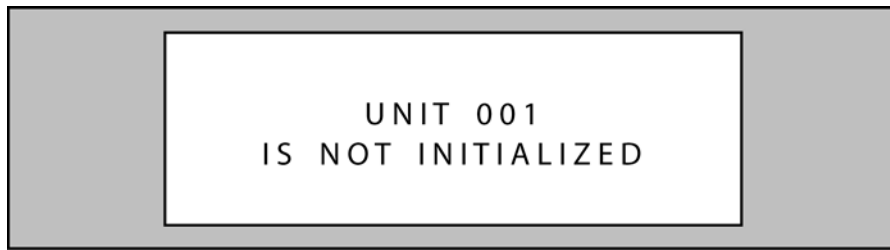
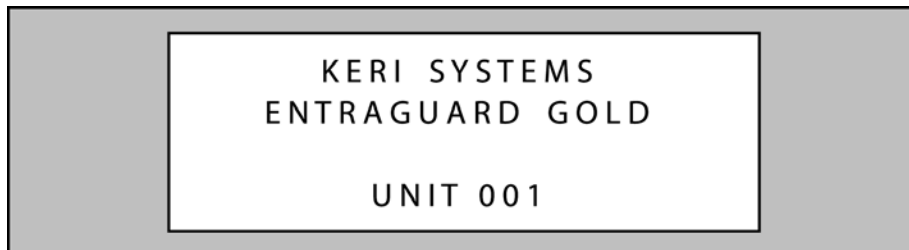

Figure 29: Not Initialized Unit Warning
Figure 30: EntraGuard Silver Default LCD Display
Once the memory has been cleared, the unit is ready to be configured. The LCD will display a warning that the unit has not been initialized (see Figure 29 on page 24). This display will rotate with the EntraGuard Default display (see Figure 30 on page 24) until a Total Update from *Doors* has been performed on the unit. Once an update has been performed, only the default will be displayed.
1. Press 1 to clear the controller's RAM. The LCD will change to show the memory is being cleared (see Figure 28 on page 23). Once the controller's RAM has been cleared, the unit is ready for use. The LCD will rotate between the Initialization Warning and EntraGuard Default screens (see Figure 29 on page 24 and Figure 30 on page 24) until a Total Update from *Doors* has been performed on the unit.